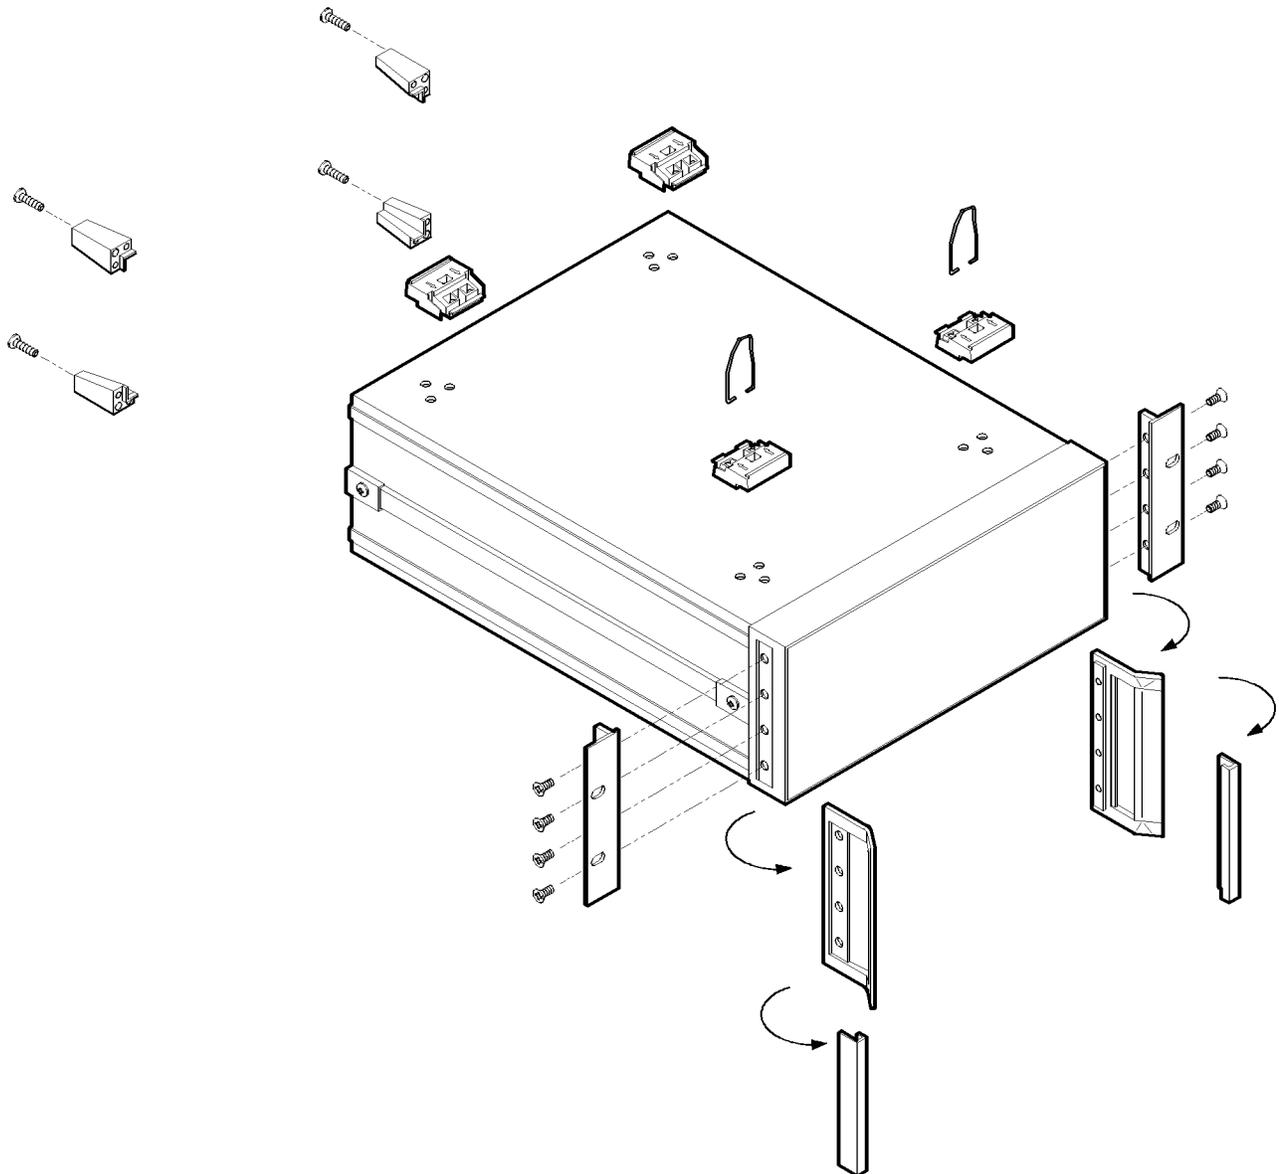

Figure 3-5. Rack Mount Flanges for Swept Signal Generators with Handles Removed
1. Refer to Figure 3-5. Remove handle trim strips.